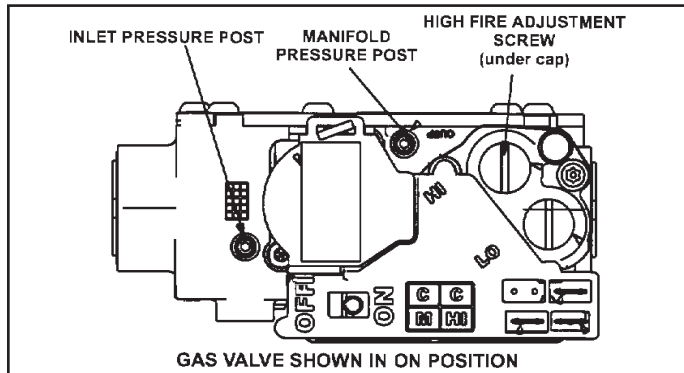

Figure 50. Gas Valve
6. Move gas valve switch to OFF. See Figure 50.
8. Move gas valve switch to ON. See Figure 50.
An inlet post located on the gas valve provides access to the supply pressure. See Figure 50. Back out the 3/32 hex screw one turn, connect a piece of 5/16 tubing and connect to a manometer to measure supply pressure. See Table 15 for supply line pressure.
1. A manifold pressure post located on the gas valve provides access to the manifold pressure. See Figure 50. Back out the 3/32 Hex screw one turn, connect a piece of 5/16" tubing and connect to a manometer to measure supply pressure.
6. Repeat on high fire and compare to value given in Table 15. If necessary, make adjustments. Figure 50 shows location of high fire and low fire adjustment screws.